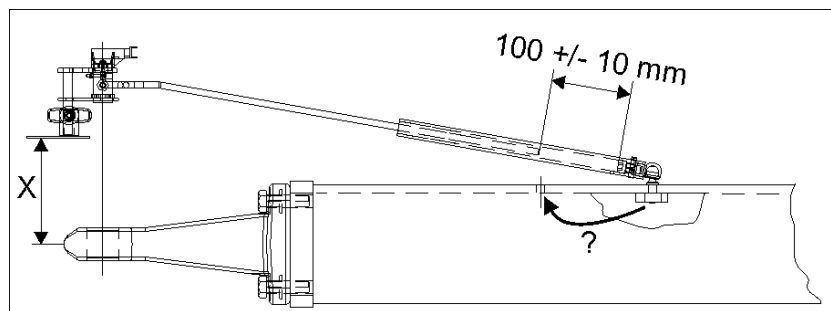

Fig. 133
- Keep the distance between the coupling point and position encoder (Fig. 133/ X) as small as possible (particularly with the hitch drawbar).